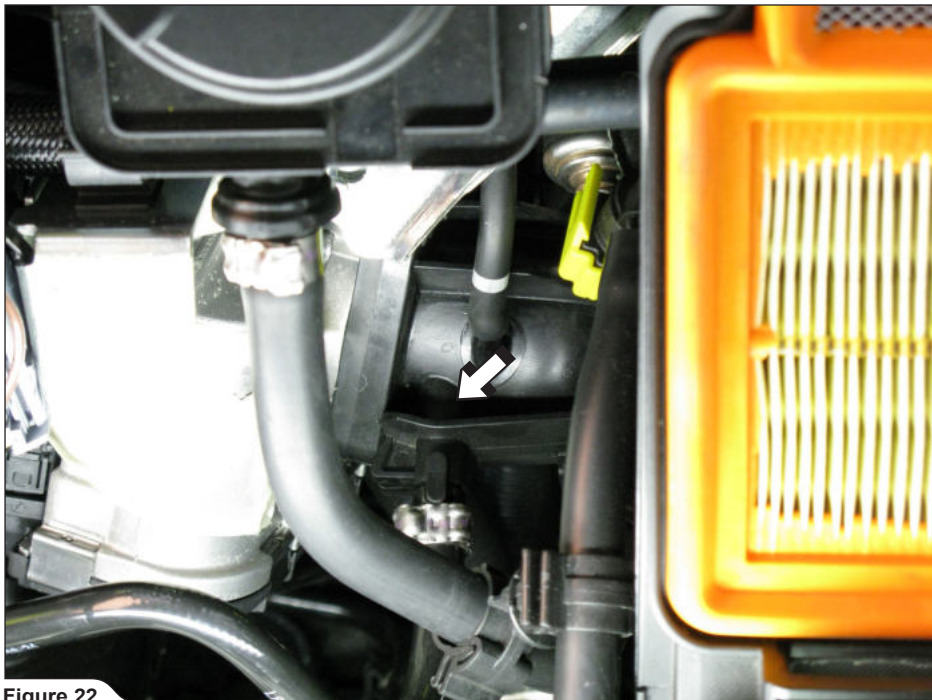

Figure 22
18. **For optional wireless kit only:** carefully pull the marked vacuum tube off the vacuum distributor (Figure 22).